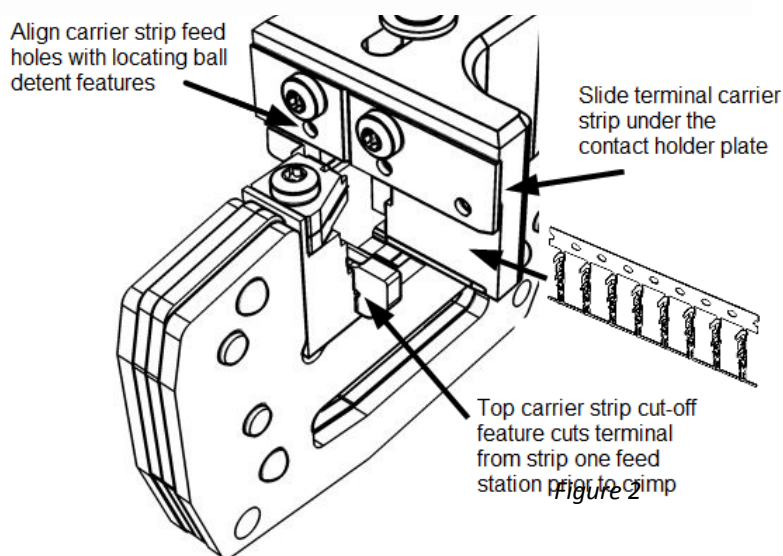

Figure 2
3. Slide the terminal carrier strip under the contact holder plate and align the carrier strip feed holes with the locating ball detent features. This tool is designed for a double carrier strip terminal. The top carrier strip cut-off tool separates the terminal from the strip one-strip-feed distance prior to the crimp station (Figure 2).
4. Cycle the handle one or two times to ensure the top carrier strip is separated from the terminal. The terminal should now be properly positioned and ready to crimp (Figure 2)